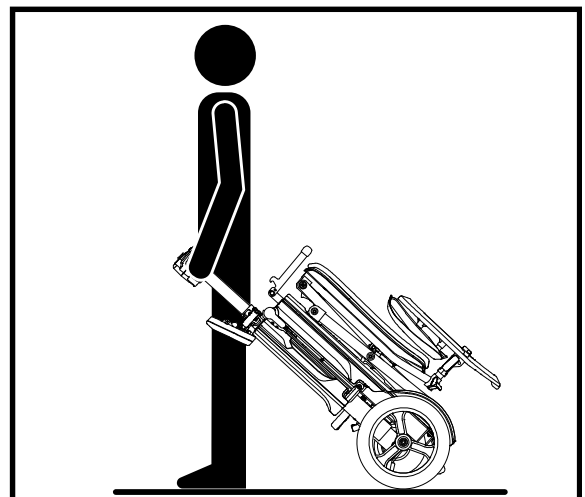

Figure 17. Transport
**To transport your folded scooter (see figure 17):**